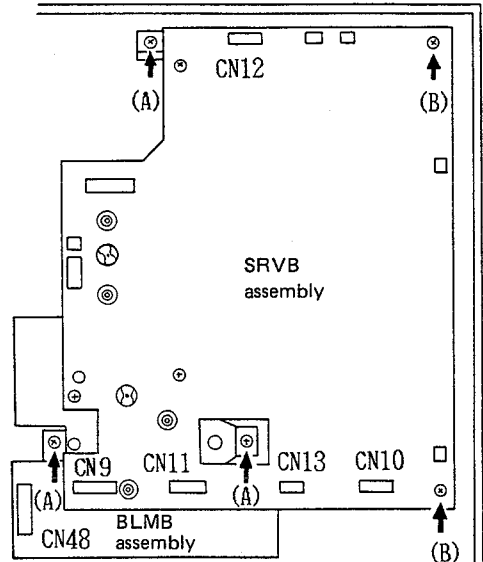

Fig. 10-3
3. Remove the six connectors from the SRVB assembly and the BLMB assembly. (Fig. 10-3)
4. Remove the three (A) screws shown in Fig. 10-3 from the Mechanical assembly and remove the two (B) screws shown in Fig. 10-3 from the SRVB assembly.
12. Install the Mechanical assembly in the disc player, tighten the three (A) screws and two (B) screws shown in Figure 10-3, connect the ground, then connect the connectors.
- Pick-up assembly tilt adjustment (1)
- Pick-up assembly tilt adjustment (2)